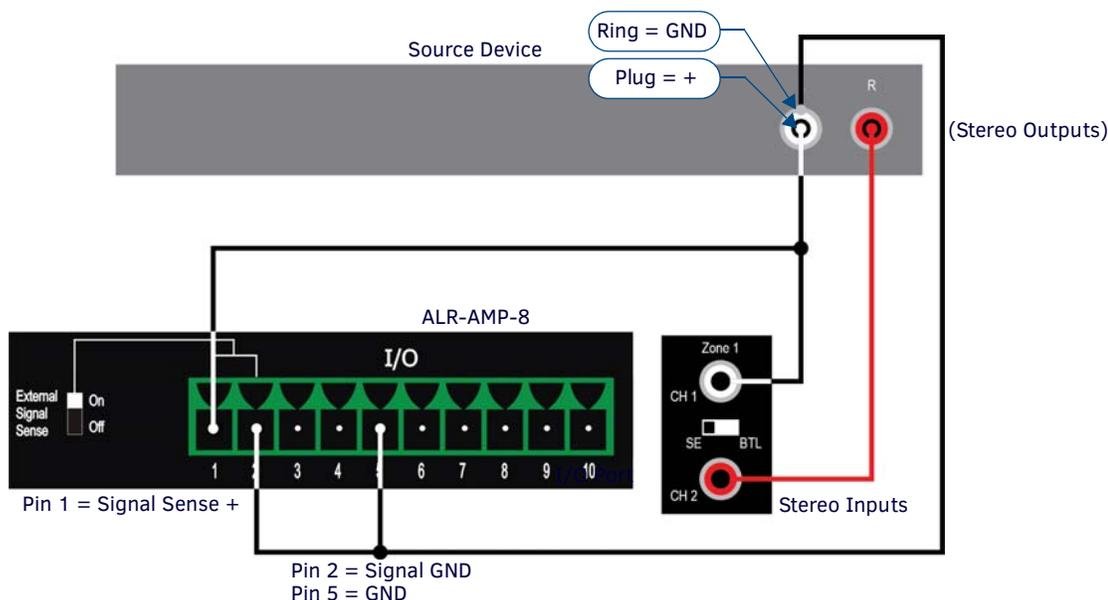

FIG. 11 PIN 1 Example - Signal Sense Connection (Unbalanced)
Pin 1 on the 10-pin I/O port is used for single-ended Signal Sense input (+). This pin detects an input signal from a source device when the source device is active. **Pin 1 (Signal Sense +)** connects to one of the source device's input cables to provide a signal to the Alero when the source device is active (FIG. 11):.
- Note that the example diagram in FIG. 11 indicates the Signal Sense connection tied to the Left output from the source device, but Signal Sense can come from either output.